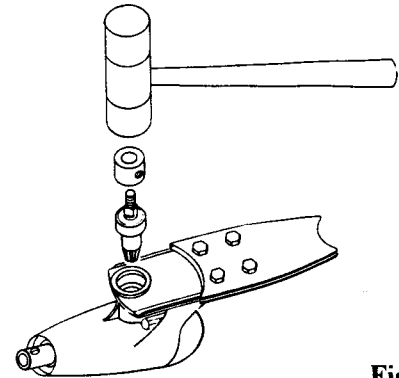

Fig. 32
- Fit pinion assembly. Apply liquid locking medium (e.g. Loctite) to outside diameter of bearing #40835 and carefully tap (and turn) pinion so it slides between bevel gears and is fully in, exposing the circlip groove - Fig. 32. Then fit circlip.